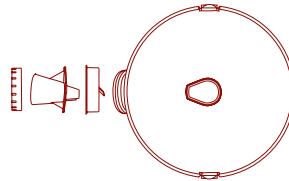

Figure 7
6. Turn the Shaving Blade Assembly Nut counter clockwise (to the left), remove the Shaving Blade Assembly, rinse and dry prior to storage in a safe place (Figure 7).